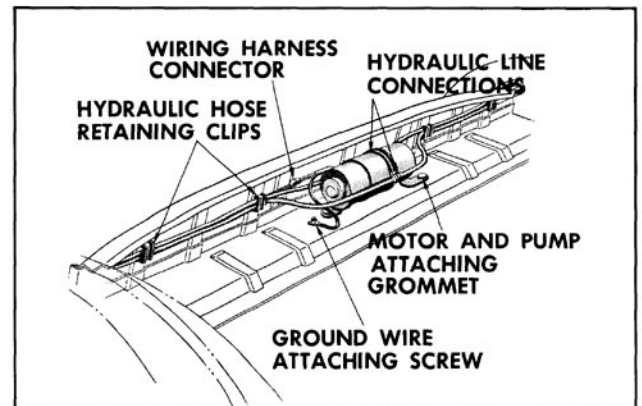

Fig. 16-417 Motor and Pump Assembly
The high pressure hydro-lectric unit consists of a 12-volt reversible type motor, a rotor-type pump, two hydraulic lift cylinders, and an upper and lower hydraulic hose assembly. The unit is installed in the body directly behind rear seat back. (Fig. 16-417)
6. Remove clips securing wire harness and hydraulic hose to rear seat back panel. (Fig. 16-417)
7. Disconnect motor leads from wire harness and ground attaching screw. (Fig. 16-417)
8. To facilitate removal, apply a rubber lubricant to pump attaching grommets; then carefully disengage grommets from floor pan. (Fig. 16-417)
11. Disconnect hydraulic lines and cap open fittings to prevent leakage of fluid. (Fig. 16-417) Use a cloth to absorb any leaking fluid, then remove unit from rear compartment.
1. Check connection of motor ground wire to body metal. (Fig. 16-417)